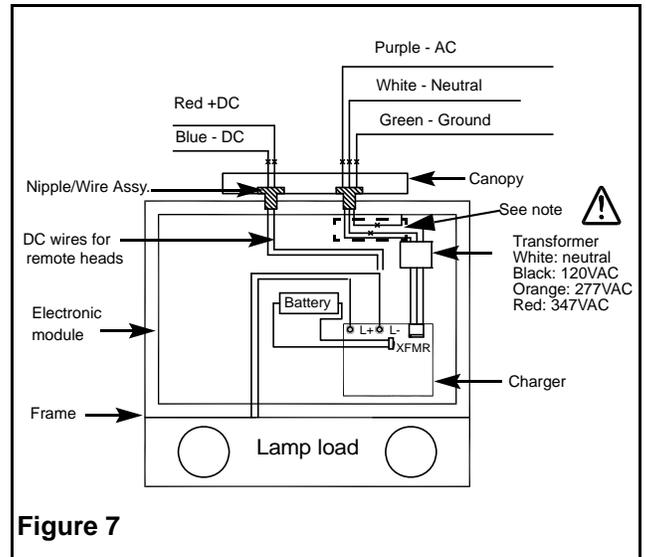

Figure 7
2. **Electrical connections:** Using the sealed AC nipple/wire assembly (3 wires), connect one end to the transformer leads inside the enclosure and the other end to AC line voltage inside the junction box. Connect the white lead to neutral and the green lead to ground. Connect the purple lead to AC line voltage and to appropriate transformer lead (See fig. 7 for color code).
For models with DC remote capacity, the sealed DC nipple/wire assembly (2 wires) will also need to be installed. One end connects to the AD charger terminal block inside the enclosure and the other end to DC output inside the junction box. Connect the red lead to positive, and the blue lead to the negative of the remote DC output (See fig. 7).